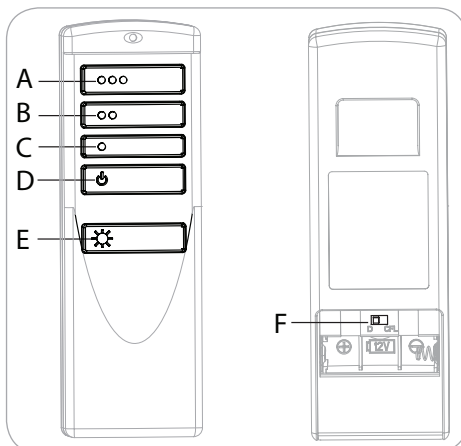

Figure 6.1
- F - **D/CFL Switch:** Switch should be set to "D" to correspond with the included LED bulbs, which will enable the dimming function. Flip to "CFL" if you change to non-dimmable bulbs (Figure 6.1).